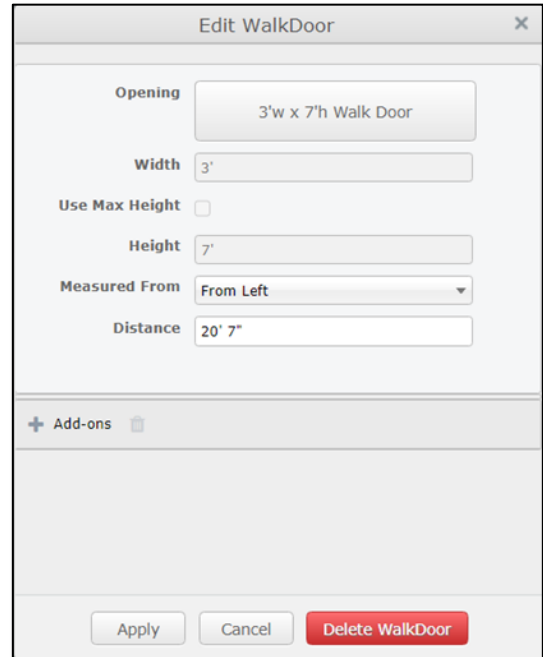

Figure 4: The *Edit WalkDoor* dialog box.
2. Double-click on the *Walk Door* whose properties you wish to change. This will open an *Edit WalkDoor* dialog box, like the one pictured in Figure 4 at right.
2. With the *Edit* button now activated, bring your mouse over the *Walk Door* to be deleted and double-click on it to open the *Edit WalkDoor* dialog box pictured in Figure 4 above.